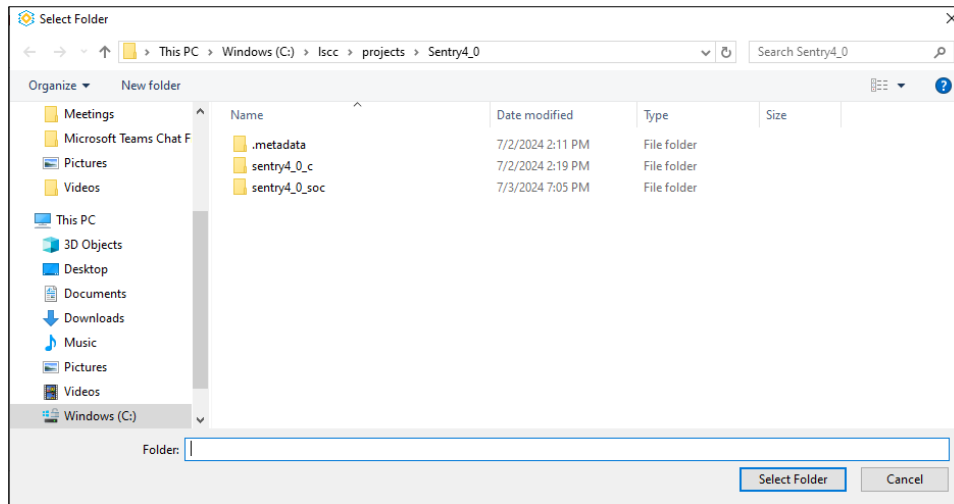

Figure 5.5. Workspace with the SoC Project to Import
- Click **Browse** next to **Select Root Directory** and navigate to the directory which contains the SoC project to be imported. Click **Select Folder** (Figure 5.5).